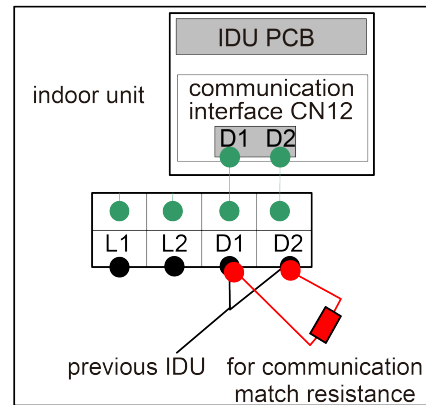

Fig. 5.3.2
- (4) Secure the communication line with the wire clamp on the electric box.
- (5) In order to ensure the reliability of communication between IDU and ODU and the communication among each IDU, add a matched resistance (supplied in a package before ex-factory) on the wiring board of the last indoor unit in a series connection. The matched resistance should be connected in parallel between terminal screw D1 and D2, as shown in Fig.5.3.2.